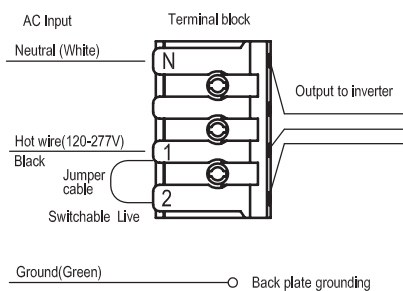

Fig. 4
4. Connect the unit's wires to a power supply using the wire nuts provided. Connect the white wire to neutral, Connect the black wire to hot lead (120-277V) and then feed the wires and the wire nuts back into the J-box through the back plate (See Fig. 4)
3. Connect the unit's wires to a power supply using the wire nuts provided. Connect the white wire to neutral, Connect the black wire to hot lead (120-277V) and then feed the wires and the wire nuts back into the J-box through the back plate (See Fig. 4)